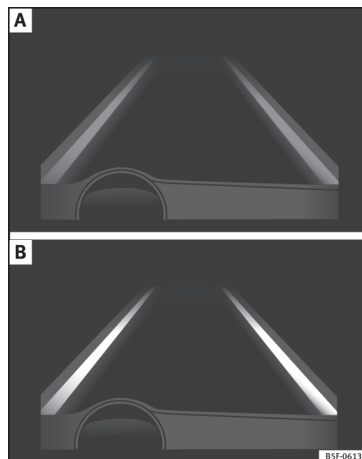

Fig. 217 On the instrument panel display: Indication on the Lane Assist system display (example 1).
- The system is active, but not available, either because the minimum speed has not been reached or because the lane lines are not recognised »» Fig. 217 A.
- The system is active and available, both lane lines are recognised. The steering angle is not being corrected at this moment »» Fig. 217 B.